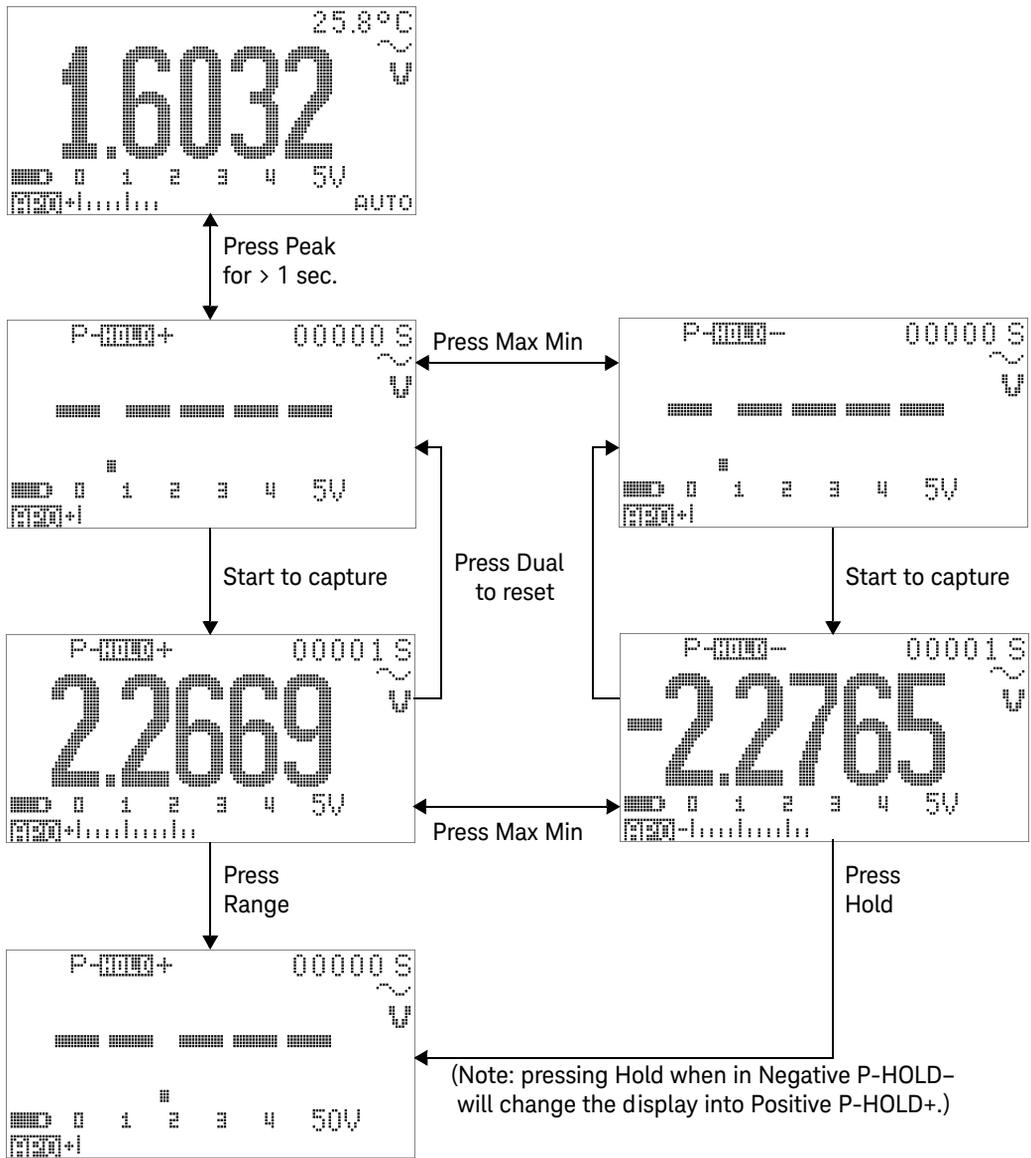

Figure 3-7 1 ms peak hold mode operation
- 4 In the measurement example shown in Figure 3-7 on page 94, the crest factor will be $2.2669/1.6032 = 1.414$.